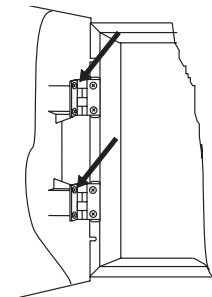

Figure 3.
- Remove the front panel by undoing the screws of the hinges - Figure 3. (**NB.** The screws at the metal bottom can also be undone. What is special here is that there are two plastic pads under the every hinge. These pads need to be placed back again under the hinges when mounting the front panel.)
- Perform an exposed or flushed mounting (option) - see items 3.1 and 3.2.